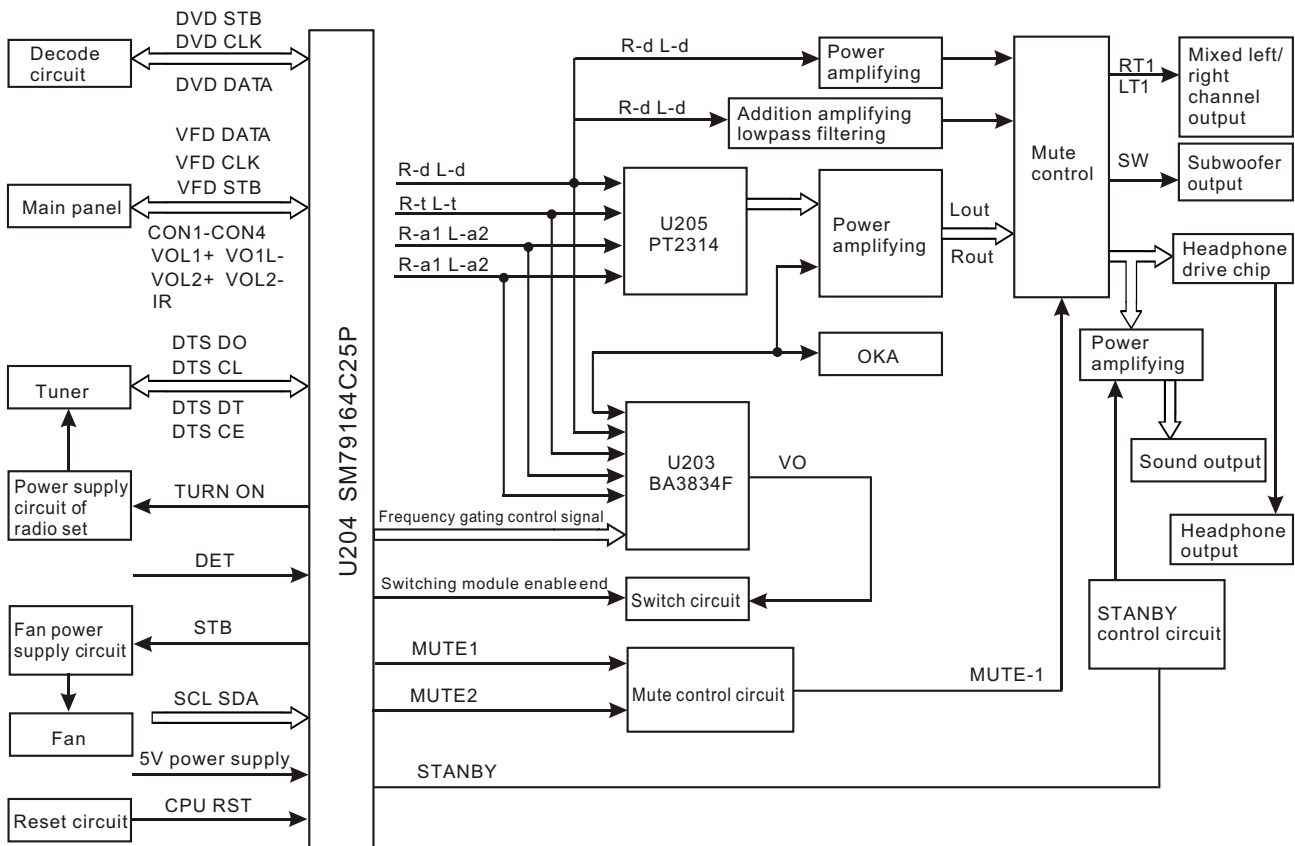

Figure 3.2.11.1 Audio power amplifying circuit block diagram
1. Audio power amplifying circuit block diagram is shown as the following figure 3.2.11.1: